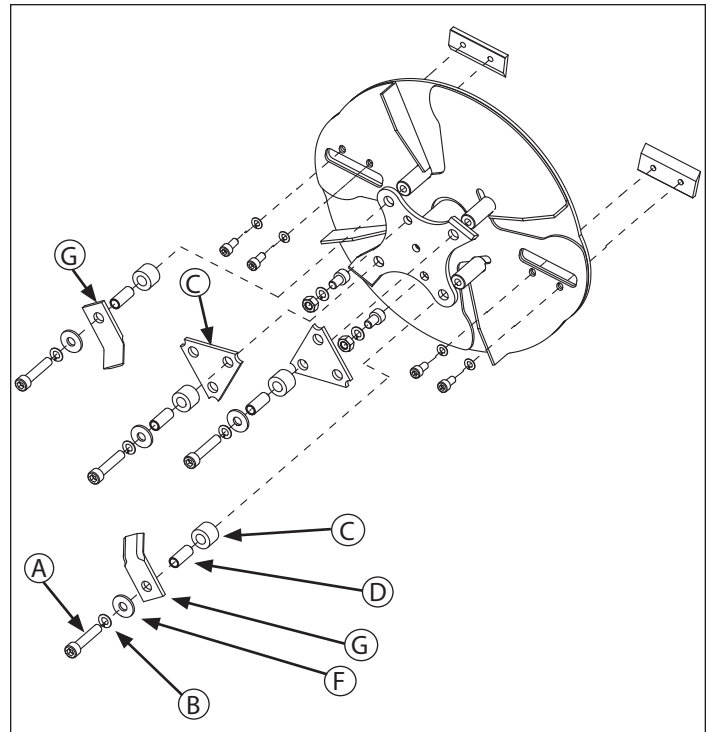

FIGURE 14- Rotor Housing
4. Note the assembly sequence of the hardware used to secure the hammers. Using an 8mm allen wrench remove the socket head cap screw (A) and related hardware. **SEE FIGURE 14**
6. Reassemble the hammers, spacers, washers, and cap screws. Torque the socket head cap screws (A) to 30-35 ft. lbs. (41-47 N.m.) The J-hammer (G) on the opposite side of the rotor faces outward for balanced rotation.